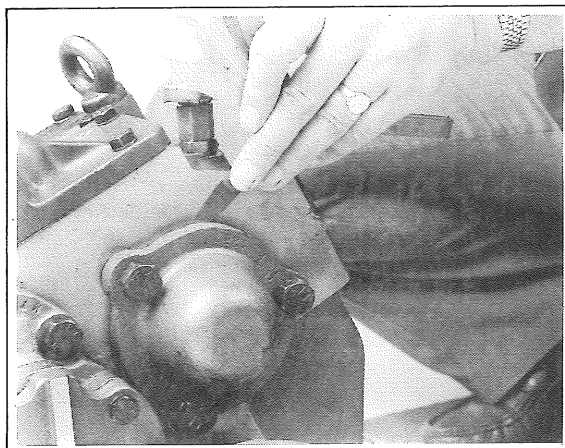

Fig. 22
3. Use feeler gauges or shims to measure the gap, as shown in Fig 22, and add 0.05mm (0.002 in) to this measurement.
4. Remove shims to the value of (3), re-fit and tighten the oil pump or end cover, and rotate the shaft to check that it moves freely.